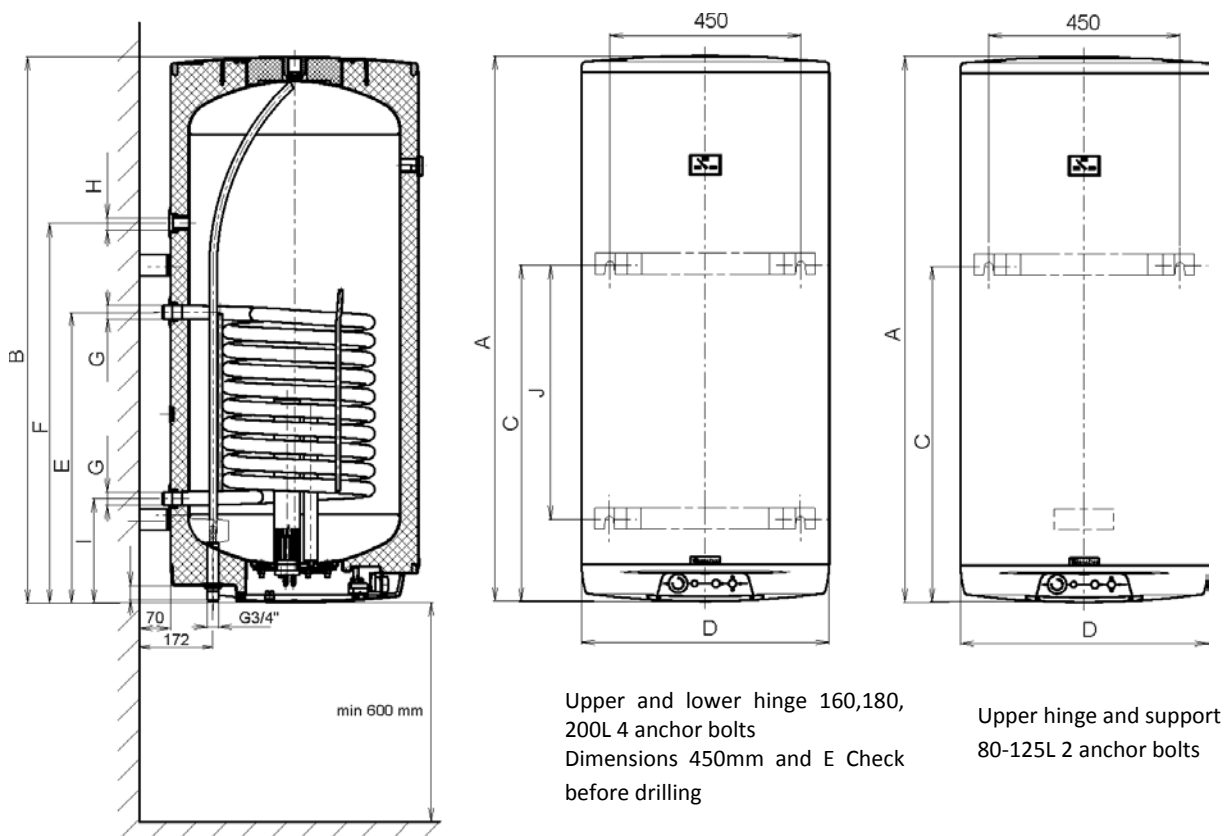
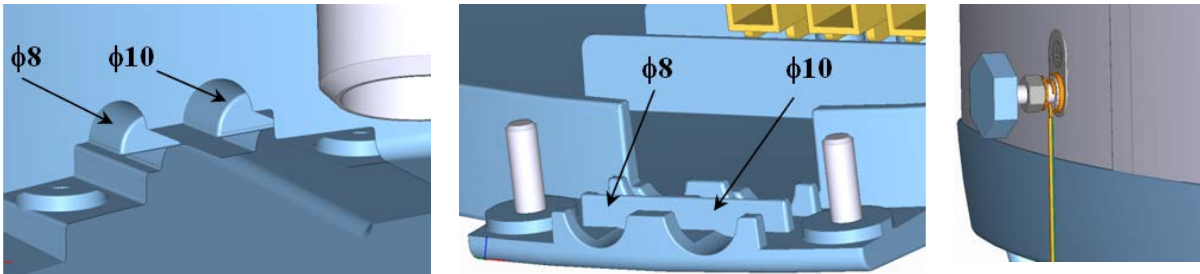
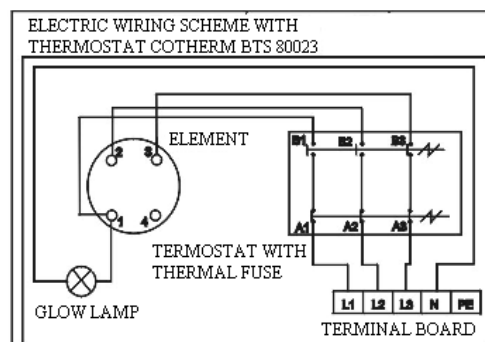
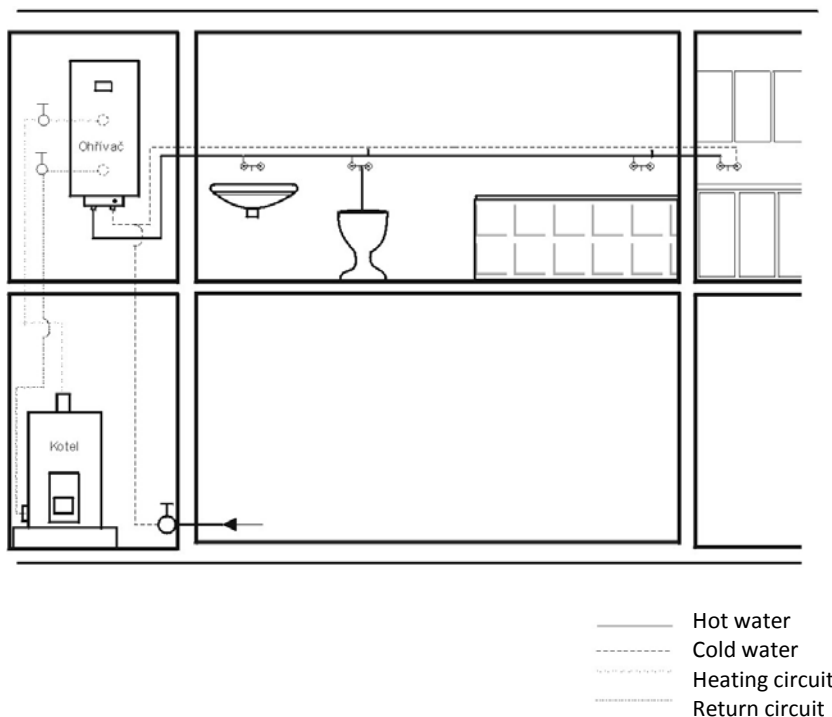

Figure 1
Figure 4
Figure 5
Figure 6
The water heater as well as the storage tank (thereinafter the appliance) is designed for accumulation heating of service water using electricity or thermal energy via an exchanger (for the combined design only). Water is heated by an electric element (or a heat exchanger) in an enamelled thermally insulated accumulator at the time defined by the power supplier. The element is at the time of heating controlled by a thermostat the temperature of which can be adjusted continuously (within the range between 5°C and 74°C). Once the selected temperature is reached, heating interrupts automatically. Water accumulated in the tank is then used for consumption. The tank keeps constant pressure of water from the water main. If the combination faucet hot water valve is opened, water from the water supply conduit pressed out by cold water pressure flows out of the appliance. Hot water flows out through the top part, and water flowing in remains in the bottom part of the appliance. Pressure principle allows hot water withdrawal at any place from the appliance (Figure 5).
Prior to mounting, check the loading capacity of the wall and, depending on the type of masonry, choose a suitable anchorage material, or reinforce the wall, if needed. The appliance shall only be mounted in vertical position so that the lower side of the appliance was placed at least 600 mm above the floor (Figure 1). In appliances, elbows have to be attached to the heating water inlet and outlet and, by turning them, the mounting either from the right or from the left has to be determined (Figure 4). With regard to various types of carrying masonry and broad assortment of special anchorage material available at the market, we do not **provide** appliances with this material. The anchorage system has to be selected individually, depending on the conditions. We recommend an **authorised company** perform **mounting on the wall** and anchorage, or discuss the **anchorage with a professional**.
Connection of appliances to plumbing fixtures is illustrated on (Figure 4, Figure 6). For potential disconnection of the appliance, the service water inlets and outlets must be provided with screw coupling Js 3/4". Safety valve is mounted on the cold water inlet identified with a blue ring.
Perform the connection according to the scheme. Factory connection must not be changed! (Figure 5) In the electric wiring casing remove the partition corresponding with the input wire diameter of $\phi 8$ or $\phi 10$ (Figure 4). The degree of protection of electric parts of the appliance is IP 45. Power input of electric element is 4000 W.
- The electric wiring scheme is attached to the appliance on the side of the electric installation guard (Figure 5).